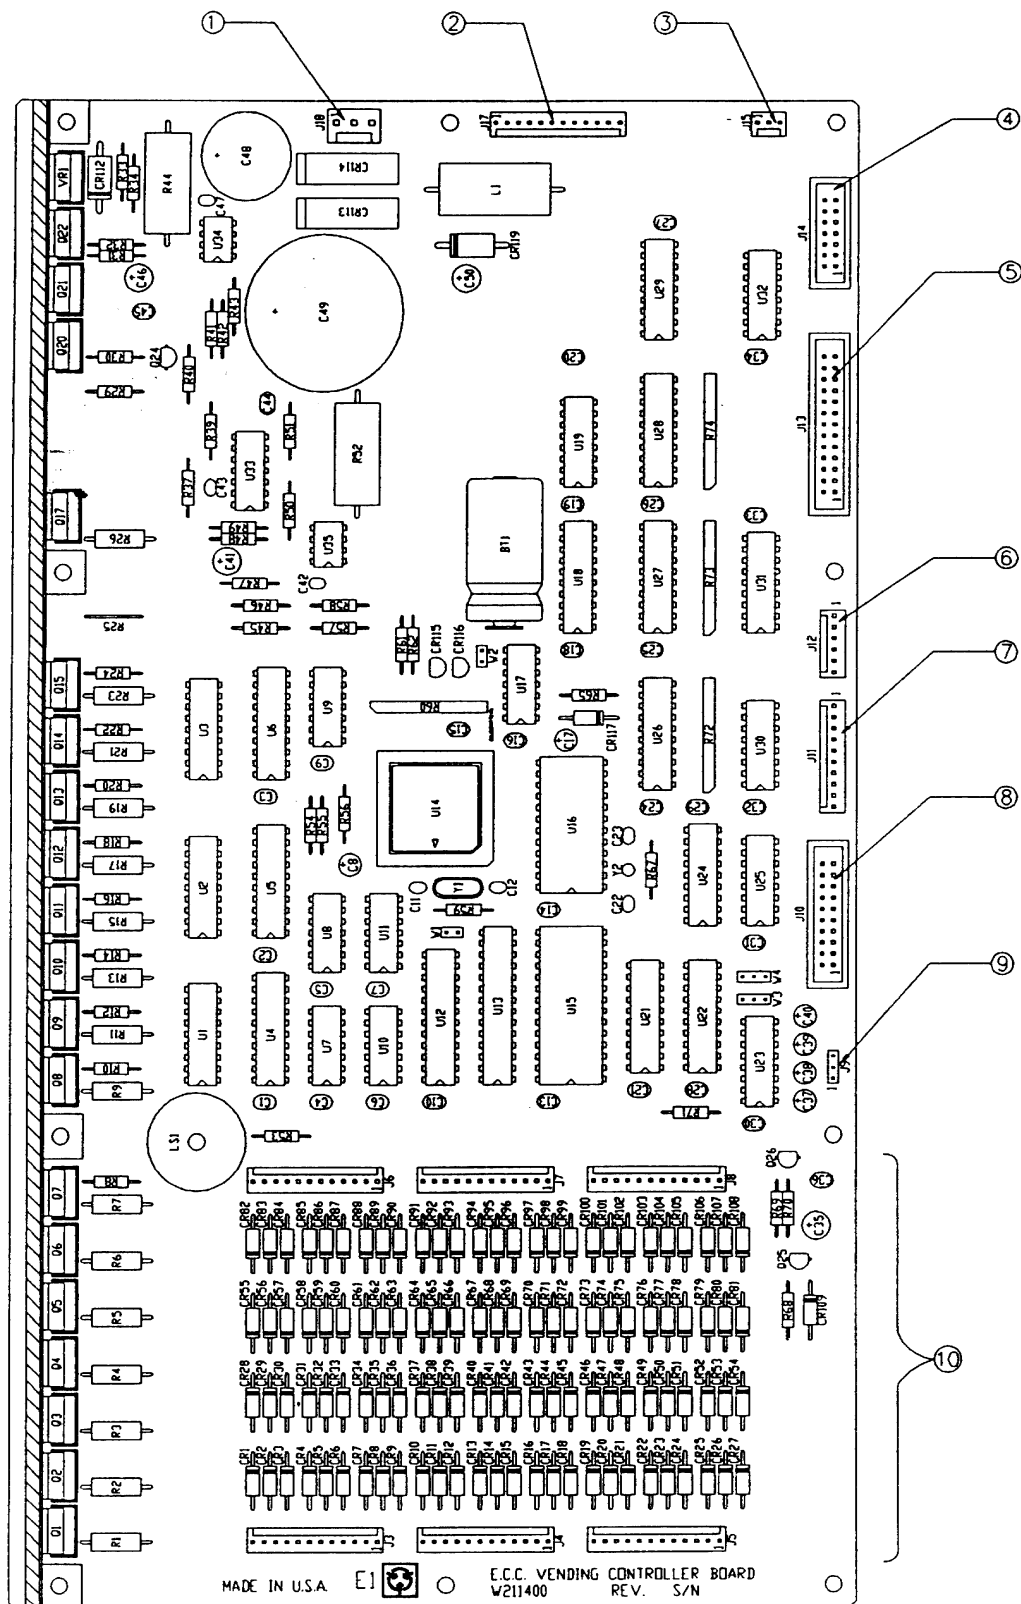

FIGURE 1 – CONTROLLER BOARD CONNECTIONS
- J9 is the 3 pin connector referenced by ⑨ on figure 1, page 48.
- J9 is the 3 pin connector referenced by ⑨ on Figure 1, page 48.